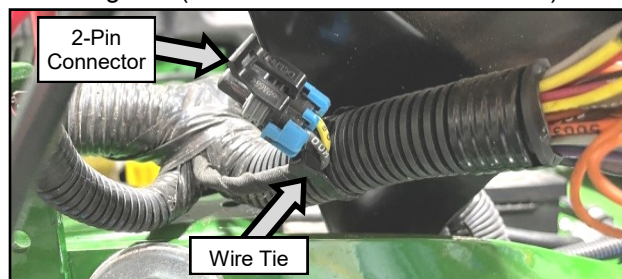

Fig. 1.9 (Remove Cover from 2-Pin Connector)
- 1.9 Remove cover from 2-pin connector found on right side of vehicle. Next, cut wire tie and ensure connector is accessible. See Figure 1.9.